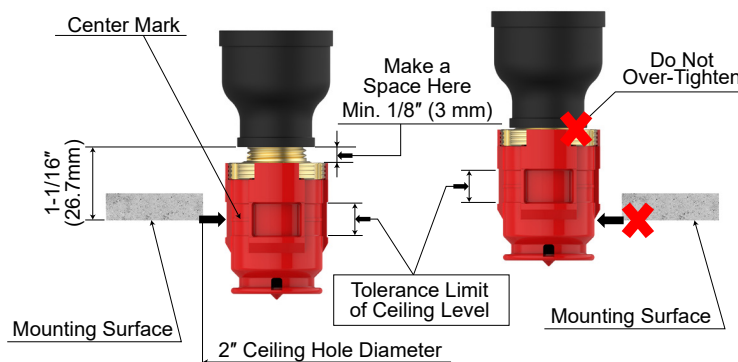

Figure 3: Installation
Step 2: Install the sprinkler fitting so that the distance from the face of the fitting to the mounting surface will be nominally 1- 1/16 inch as shown in Figure 3.
Step 5: Use the "tolerance limit of ceiling level" indicator on the Protective Cap to check for proper installation height (Ref. Figure 3). Relocate the sprinkler fitting as necessary. If desired the Protective Cap may also be used to locate the center of the clearance hole by gently pushing the ceiling material against the center point of the Cap.